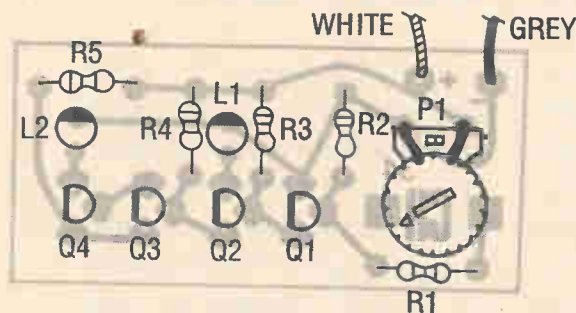

Figure 2. When assembling the monitor, make sure to orient the components exactly as shown in the parts-placement diagram shown here.
1. Assemble the Car Battery and Alternator Monitor following the parts layout shown in Figure 2, the Parts List, and the schematic. Use only 60/40 rosin-core solder.